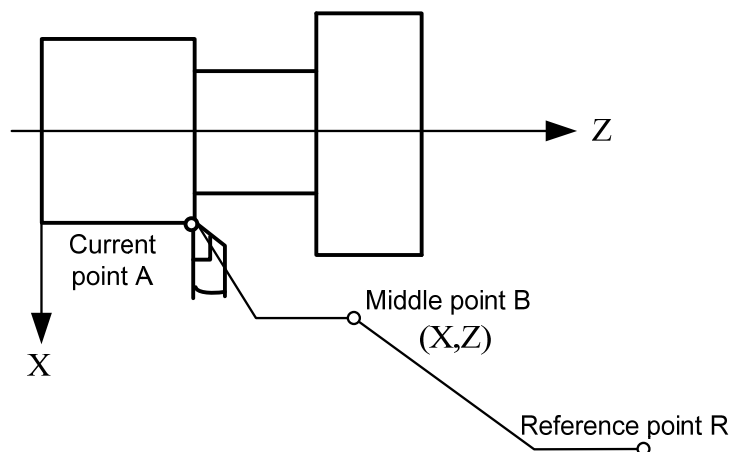

Fig. 3-2-7-1
**Explanation:** G28 operation process (Fig3-2-7-1):
- (1) Rapid traverse to middle point from current position(A point→B point) ;
- (2) Rapid traverse to reference point from the middle point(B point→R point) ;
- (3) When the machine is not locked and after the machine reference point return is completed, the machine zero return indicator is ON and the machine coordinates are cleared.